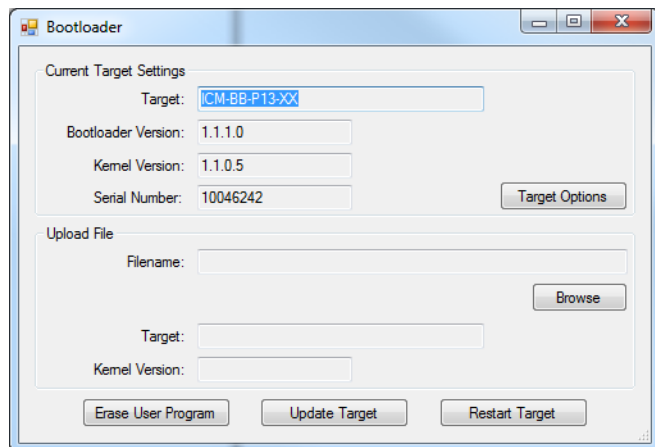

Figure 2-10 - Bootloader Screen
15. Using the menu, click **PROJECT** then **BOOTLOADER**. You may see a window momentarily while EZ LADDER connects to the P-Series Bear Bones controller bootloader. The Bootloader window will open. Refer to Figure 2-10.